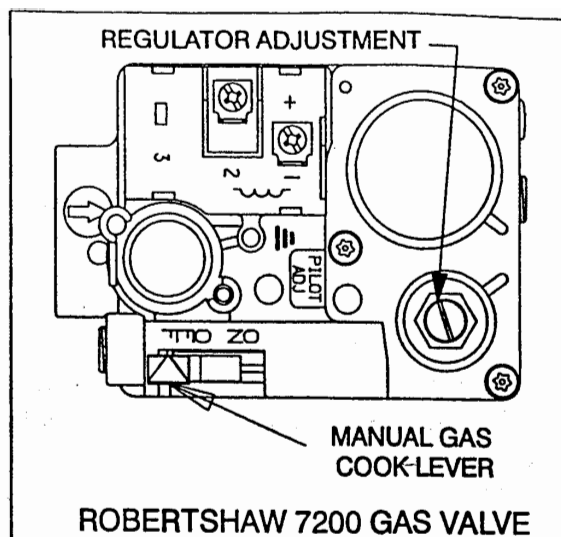

Figure 13
6. Move gas valve control lever or knob to "OFF". See Figure 13, 14, or 15.
7. Wait five (5) minutes to clear out any gas. Then smell for gas, including near the floor. If you smell gas, STOP! Follow "2" in the safety information above. If you don't smell gas, go to the next step.
This furnace is equipped with a manual gas shutoff. Figure 13, 14, or 15 shows the location of the manual shutoff valve. To turn off gas to the furnace, move the lever or knob on the gas valve to the "OFF" position. It may be necessary to depress the knob or lever in order to move it to the "OFF" position.
To adjust pressure regulator, remove cover screw (see location on Figure 13, 14 or 15) on valve. Turn adjusting screw counter-clockwise to decrease pressure, turn clockwise to increase pressure. IN NO CASE SHOULD THE FINAL MANIFOLD PRESSURE VARY MORE THAN $\pm .3$ " W.C. FROM THE SPECIFIED REGULATOR PRESSURE SETTINGS (3.5" FOR NATURAL GAS AND 10" FOR LP (PROPANE GAS)).